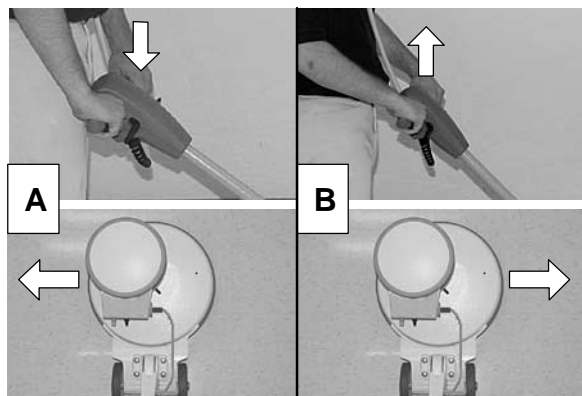

FIG. 13
- To move the machine left (A), slightly lower the handle. To move right (B), slightly raise the handle. Operate the machine with a side to side motion (Figure 13).